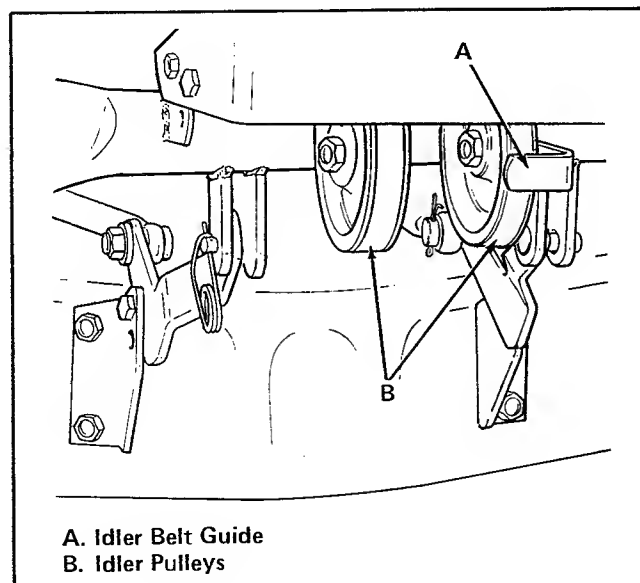

Figure 6. Position Belt Guide
7. Position and tighten idler belt guide as shown in figure 6.